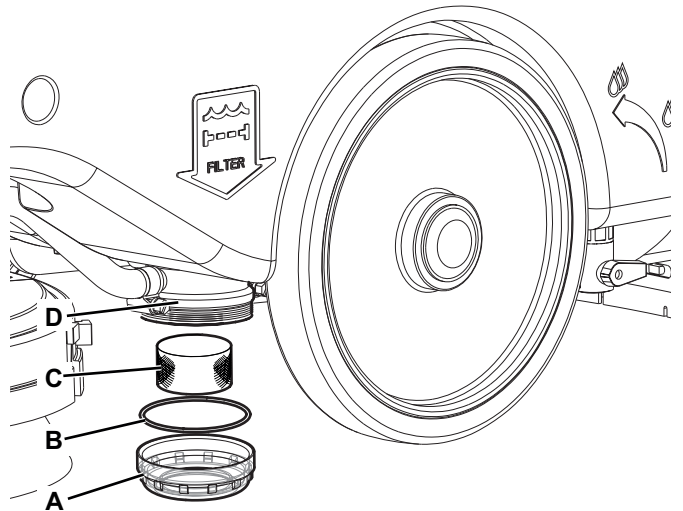

Figure 7
1. Empty the solution tank (15) as shown in the relevant paragraph.
4. Unscrew the transparent cover (A, Fig. 7), remove the gasket (B), then remove the filter strainer (C). Clean and install them on the support (D).